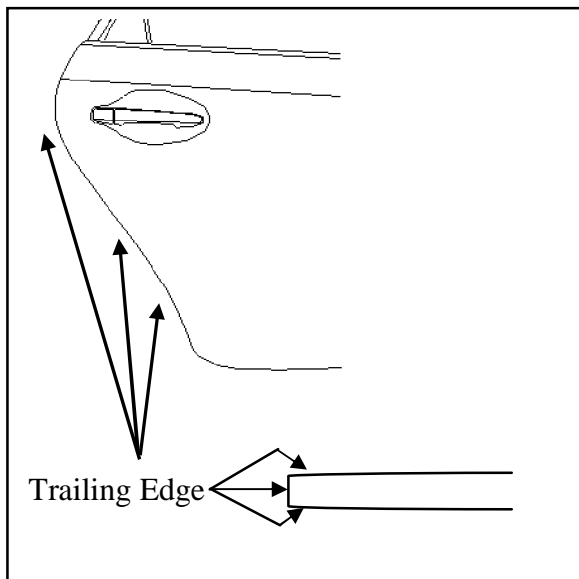

Fig. 1-1
i. Spray 3~4 pumps of Simple Green onto lint free towel and pinch the wet towel between your thumb and forefinger while running along the length of the door edge to clean the inside and outside of the trailing edge of door. Make several passes to ensure the wax and oil has been removed. (Fig. 1-1)